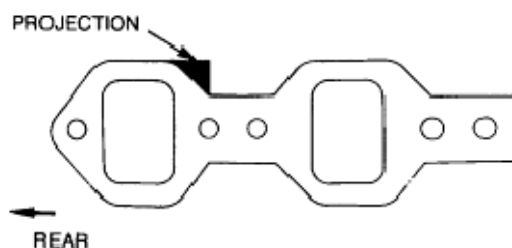

Figure 10 Air Inlet Manifold Gasket Installation
- a. Position a new manifold gasket on the cylinder head with the projection uppermost and toward the rear of the engine (Figure 10).